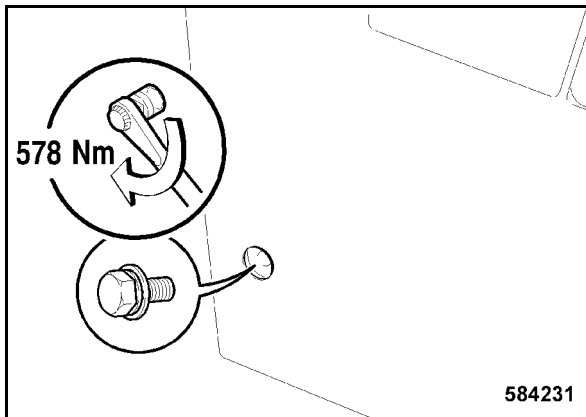

Fig. 214
- Tighten the rear lateral fastening screw on the right hand side with 578 Nm (Fig. 214).